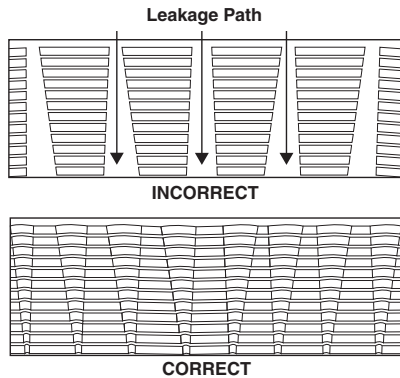

**Figure 8 – Expansion Markings (Inside Expanded Tubing End)**
5. Working quickly, visually check the inside of the expanded tube end. Confirm that there is no dirt, debris or head lubricant in the tube. If needed, wipe the inside of the tube out. Inspect the expansion markings inside the tube end. The markings should overlap (see Figure 8) reducing the likelihood of potential leak paths.